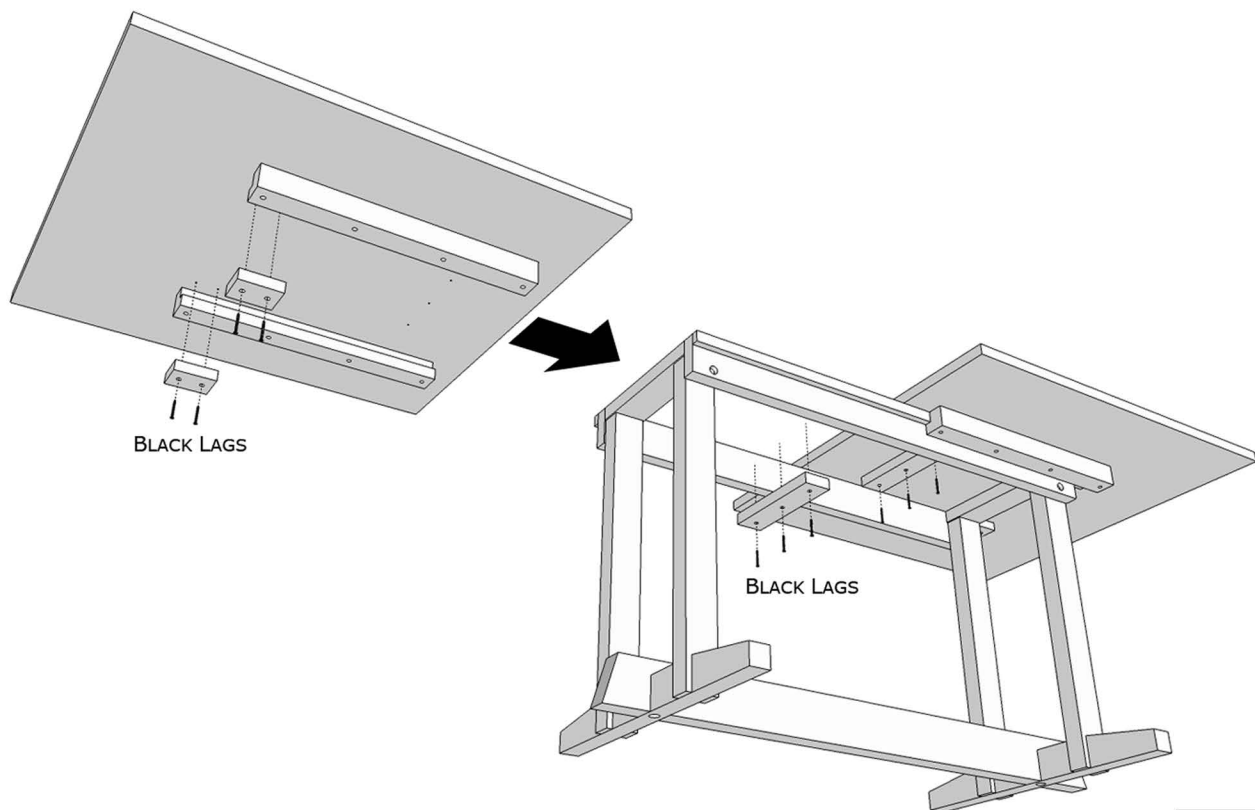

Figure 3
- 5) With the base upright, slide each end of the table top onto the base. Make sure the Slide Guides on the table top line up with the Slide Stretchers on the base. Push the ends together. See *Figure 3* for alignment.
- 6) From underneath the table, align the 3 holes in each Large Stop Block and the 2 holes in each Small Stop Block with the pilot holes in the bottom of the table. Firmly attach the stop blocks to the table using the **Black Lag Bolts**. See *Figure 3* for alignment.